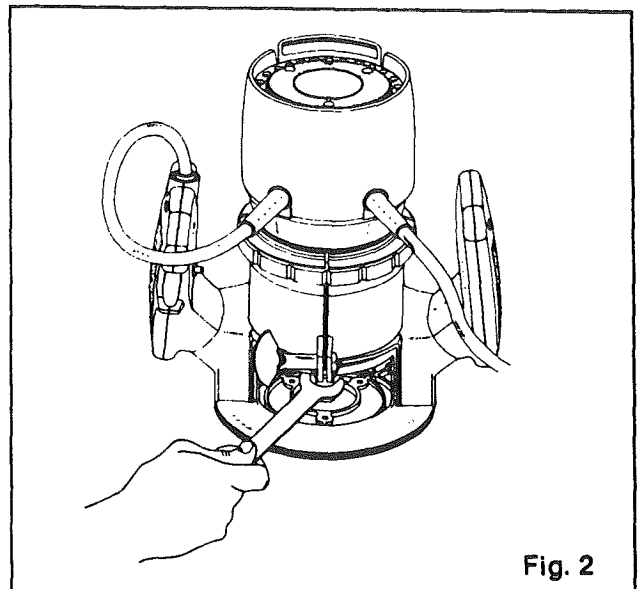

Fig. 2
2. Turn collet nut with wrench until lock mechanism interlocks. See Fig. 2. NOTE: Spindle lock is spring loaded and will snap into position when lock mechanism interlocks.